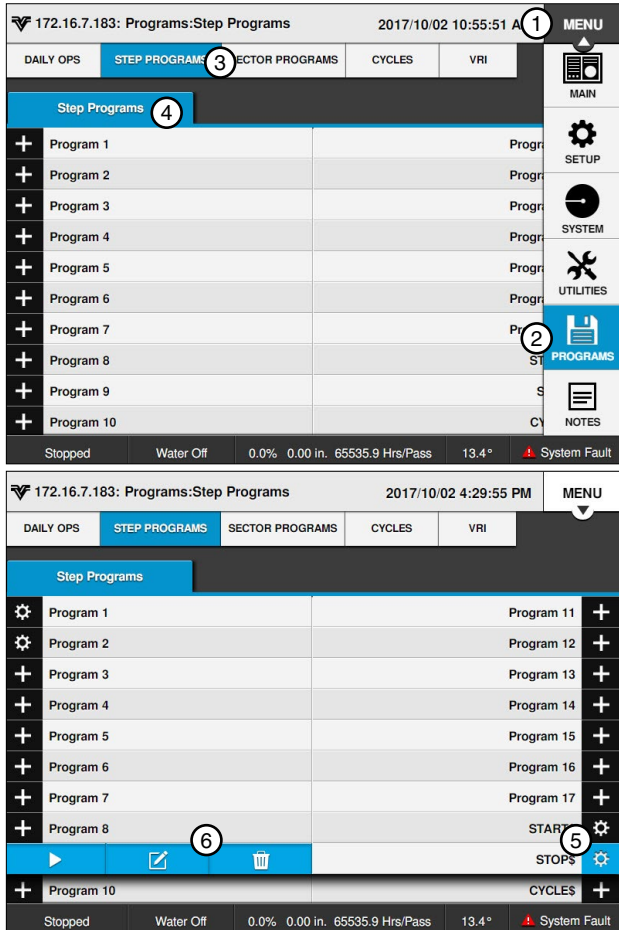

Figure 134-1 1. Menu
1. Push **Menu**, **Programs**, and **Step Programs** to view the Step Programs screen. Refer to Figure 134-1.